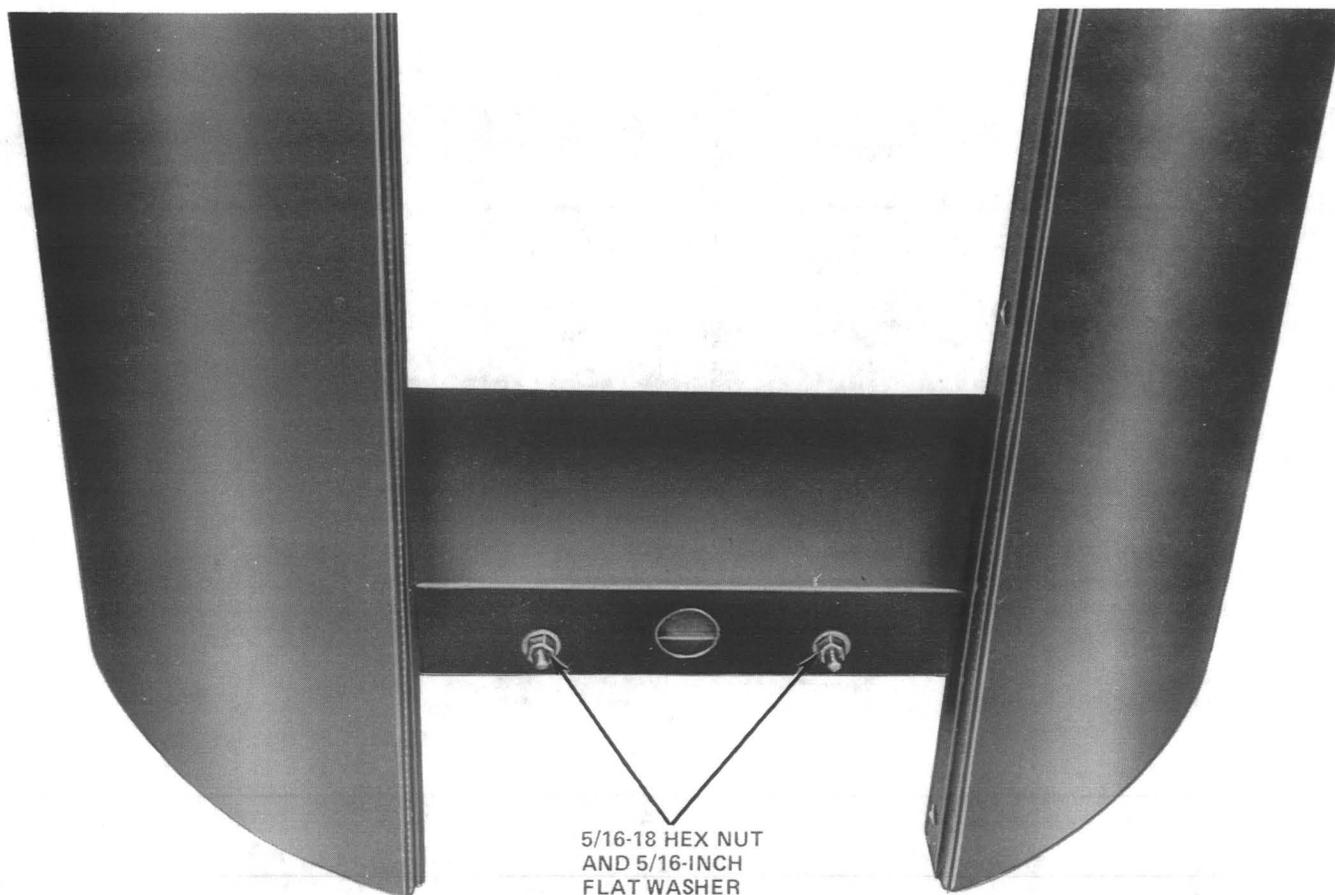

Fig. 7—Rear Portion of Silencer as Viewed From Rear
- (2) Remove two 5/16-18 hex nuts and two 5/16-inch flat washers from rear of housing (Fig. 7).
- (3) Remove the center front hex head screw and flat washer from top of mounting or post. In-